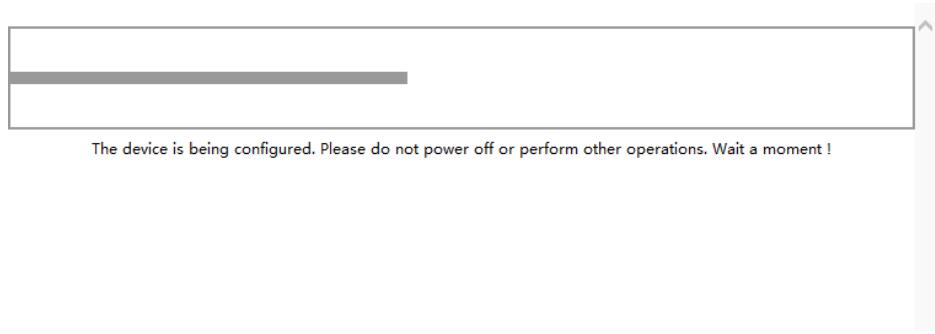

Figure 29 The waiting interface diagram after the user modifies the address
- DNS: The IP address of the DNS server. When the device uses a static IP address, the user is required to fill in this item. If a specific DNS server is not used, the default gateway IP address is generally sufficient. Whenever users modify the address settings, they need to click the button to submit to the Mport series serial server and switch to a waiting page as shown in Figure 29.